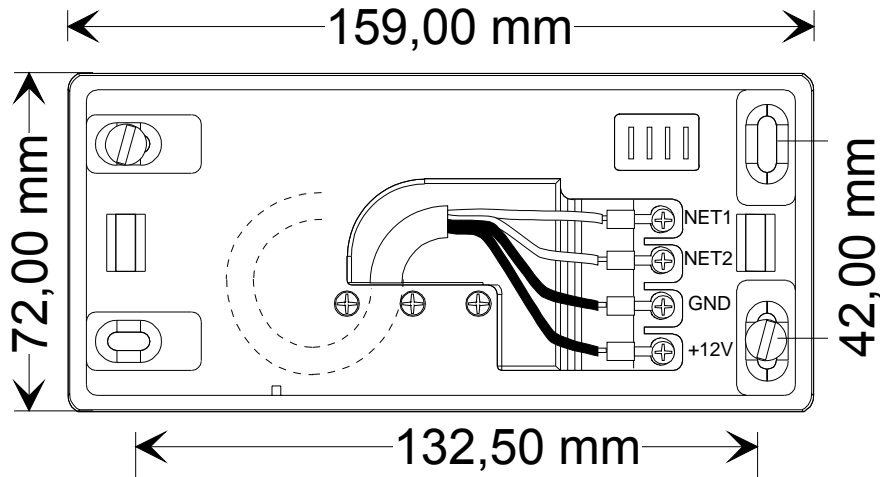

Figure 4. Wall Position – Horizontal Position (Single Module)
5. Fasten the cable crimp to the contacts in the direction shown in Figure 4.